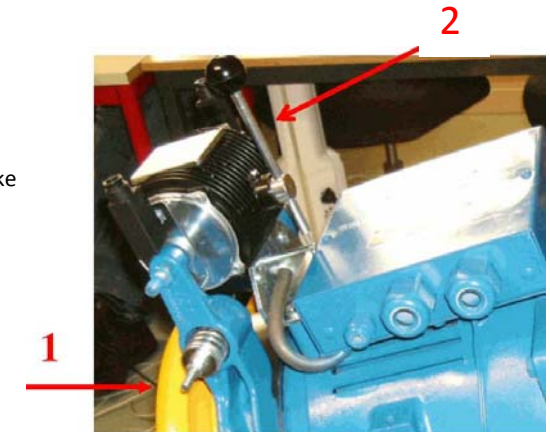

Fig. 2
- 12- At machine start, unscrew the four threaded knobs (fig. 2) till the brakes are completely closed.